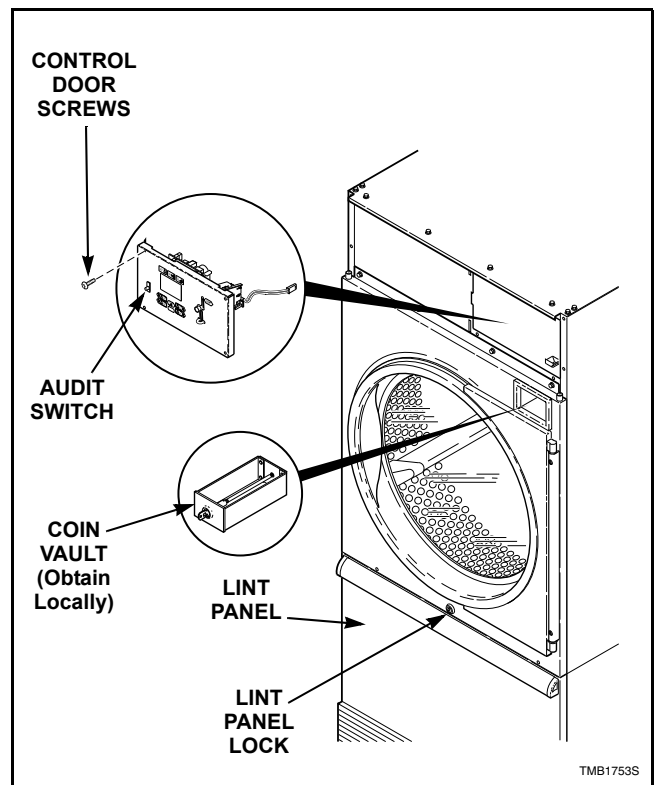

Figure 8
Refer to *Figure 8*.
Unlock panel and remove. Refer to *Figure 8*.
Pull panel down from top. Refer to *Figure 8*.
- Unlock and remove lint panel. Refer to *Figure 8*.